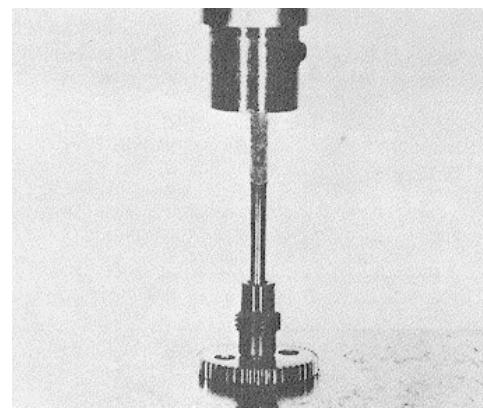

Fig. 5-52, F5146. Press shaft from gears
1. Press gear pump drive coupling or tachometer drive gear, when used, and governor drive gear from drive shaft. Fig. 5-52.